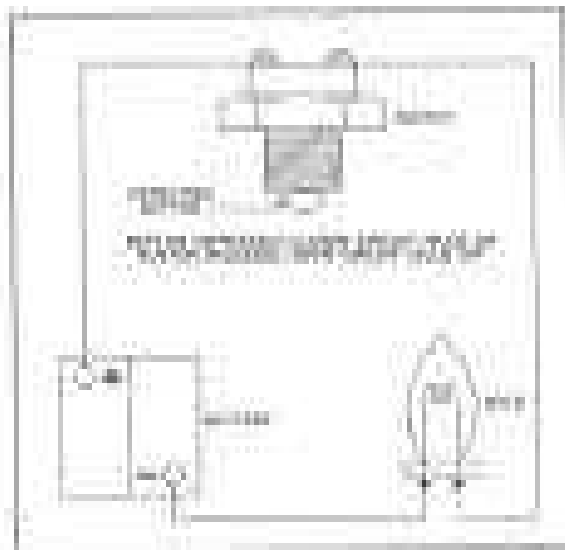

Figure 9
2. Test the switch operation by connecting a test bulb in series with the switch terminals and the battery as shown in Figure 9. Move the switch actuator housing along the high/low